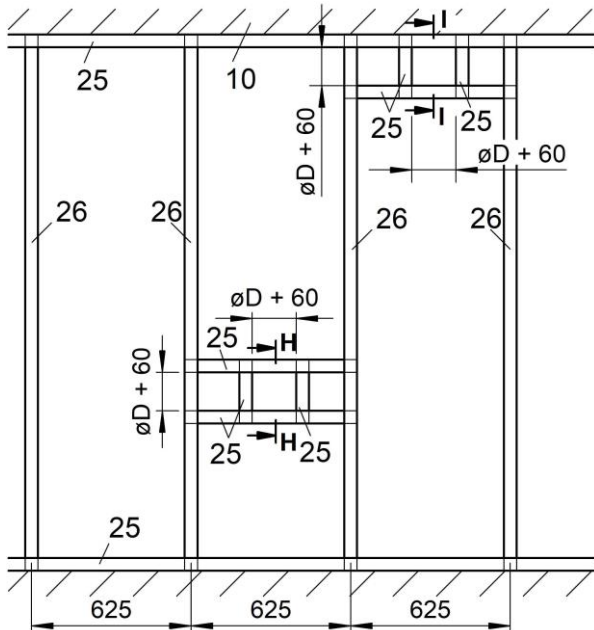

Figure 57: Metal posts plus required exchange parts for wet installation (F30; BSK-RPR 100 to ≤ 250)
- Mount the metal posts and the wall in accordance with the specifications of the wall manufacturer and the required exchange parts as shown on Figure 57.
- Leave a recess for wet installation of the BSK-RPR (pos.1) in the panelling (pos. 24) and provide mineral wool (pos. 27.3) in the exchange area.
- Mount the double-board layers on both sides (pos. 34.1 - front and back). The connection and butt joints must be filled with the jointing material of the wall.
- Insert the jointing material of the wall (pos. 33) into the circumferential gap 30 mm in width between the housing of the BSK-RPR and the wall recess.
- Mount the metal posts and the wall in accordance with the specifications of the wall manufacturer and the required exchange parts as shown on Figure 57. Before attaching the UW-profile (pos. 25) necessary for the circumferential metal profile frame in the ceiling area, a mineral wool strip approx. 50x40 mm (pos. 27.1) must be incorporated in the UW-profile at the ceiling.
- Leave a recess for wet installation of the BSK-RPR (pos.1) in the panelling and mineral wool in the exchange area.